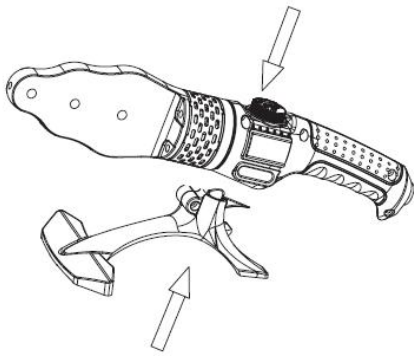

fig.1
- 2)Put the tool on the stand(fig.1)